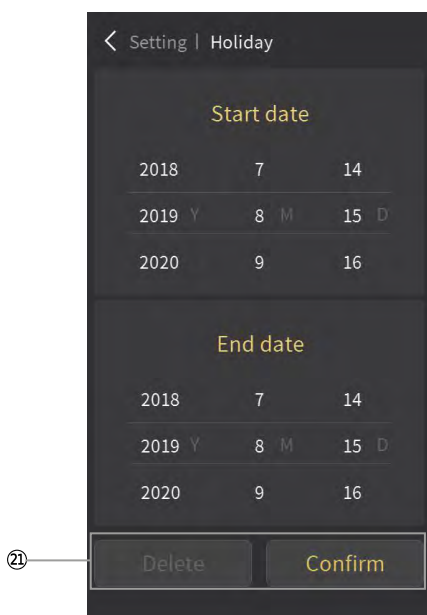
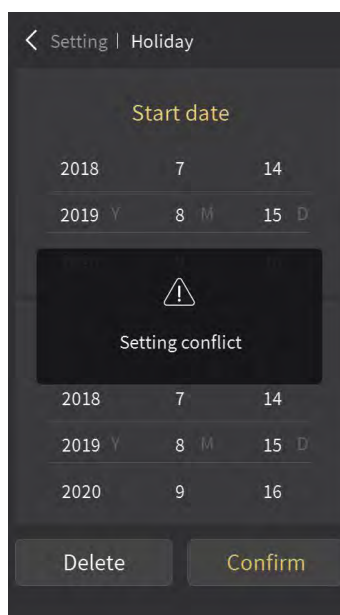
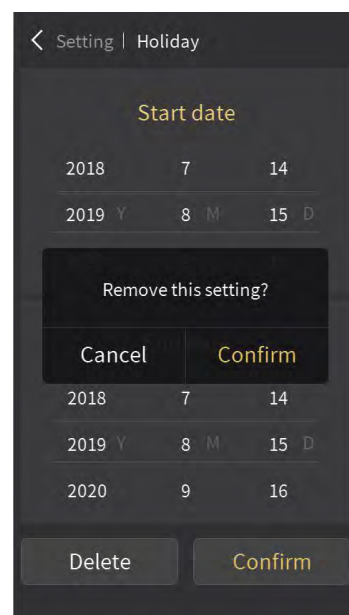

Fig.2.11.12
Fig.2.11.13
Fig.2.11.14
- ⑲ Enter the holiday time setting by touching the icon;
Touch icon ⑲, enter the interface as shown in Fig.2.11.12, set the period of holiday, here set up after the start time and end time of the holiday, click “Confirm” to finish the setting. If the holiday time is repeated when setting, then will pop up a window as shown in Fig.2.11.13; touch the area outside the window to return to the setting page.
- ⑳ Drop down the list of holiday time by touching the icon;
If it is to be modified or deleted the setting time, touch this time period to the right of the icon ㉑, then re-enter Fig.2.11.12 interface, in this period of time to modify or delete, click “Delete” as shown in Fig.2.11.14 pop-up window. In the pop-up window, click “Cancel” to return to the setting page, and click “Confirm” to delete it. If no modification or deletion is needed, the icon in the upper left corner of the touch interface returns to the holiday interface.